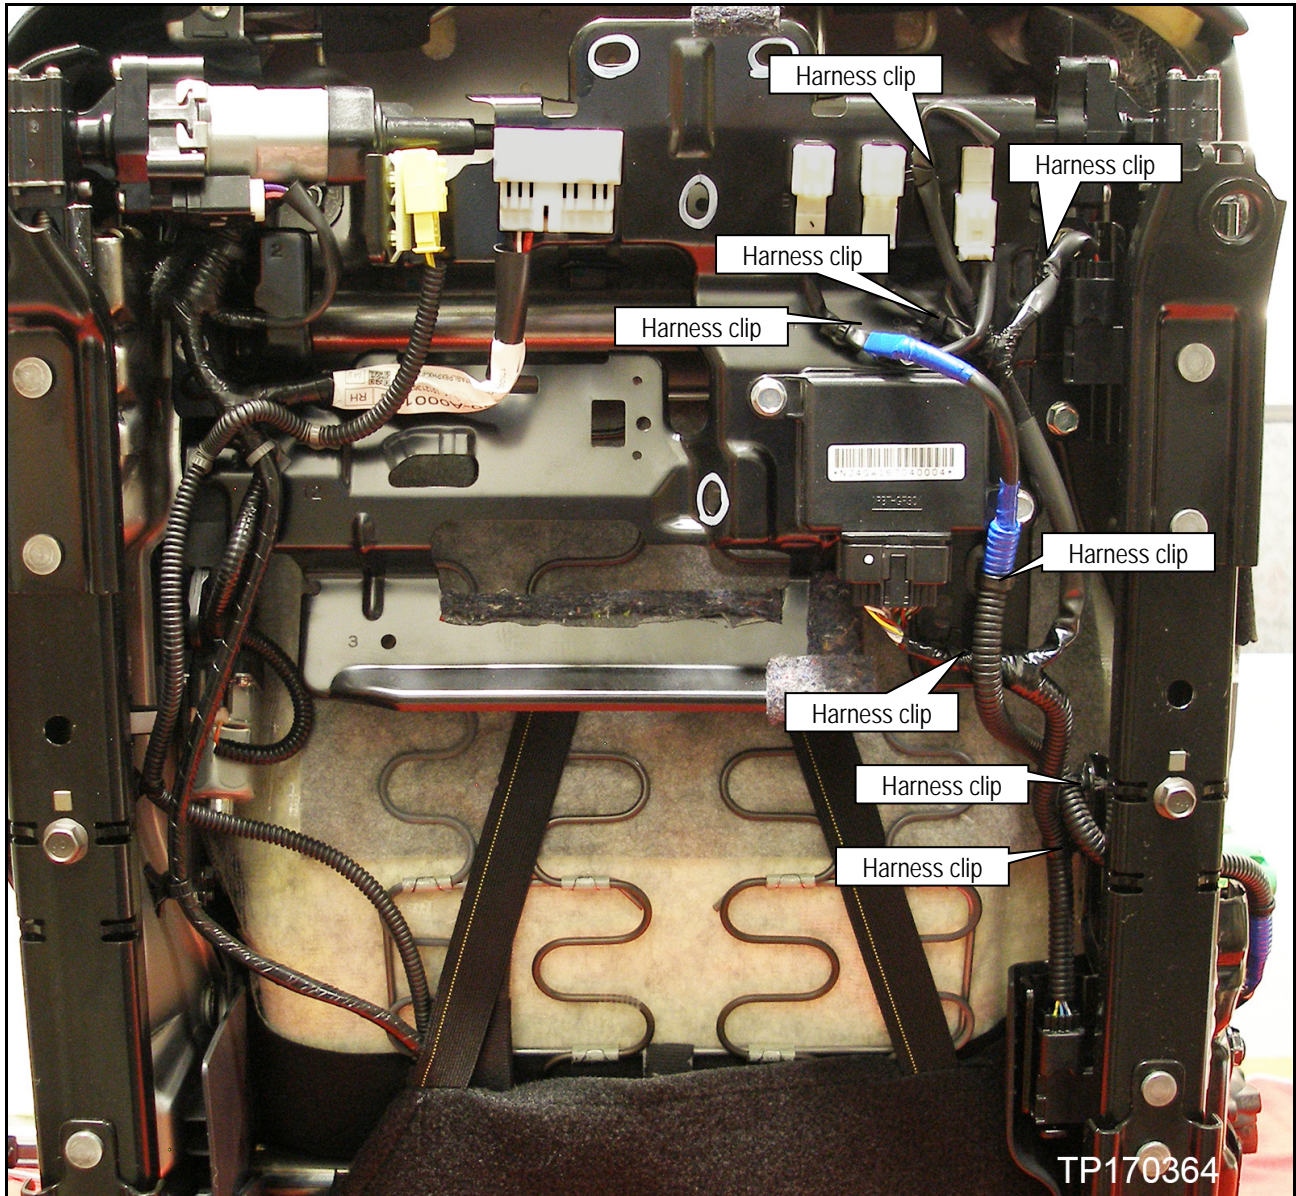

Figure 12
- Refer to Figure 12 for clip locations.